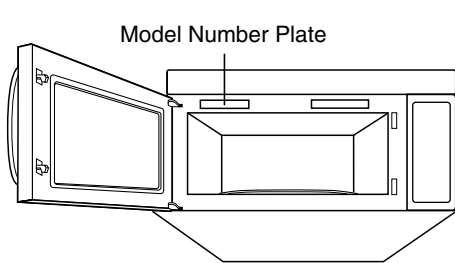
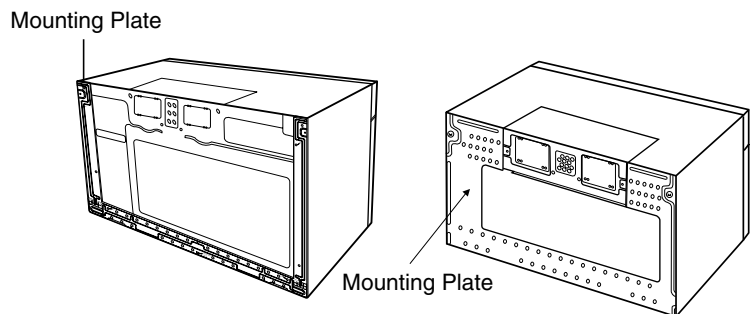

Figure 1
Figure 2
- Read the entire manual before you begin. The Model number label is located on the oven front. See Figure 1. Mounting plate is located on back side of microwave oven. See Figure 2.